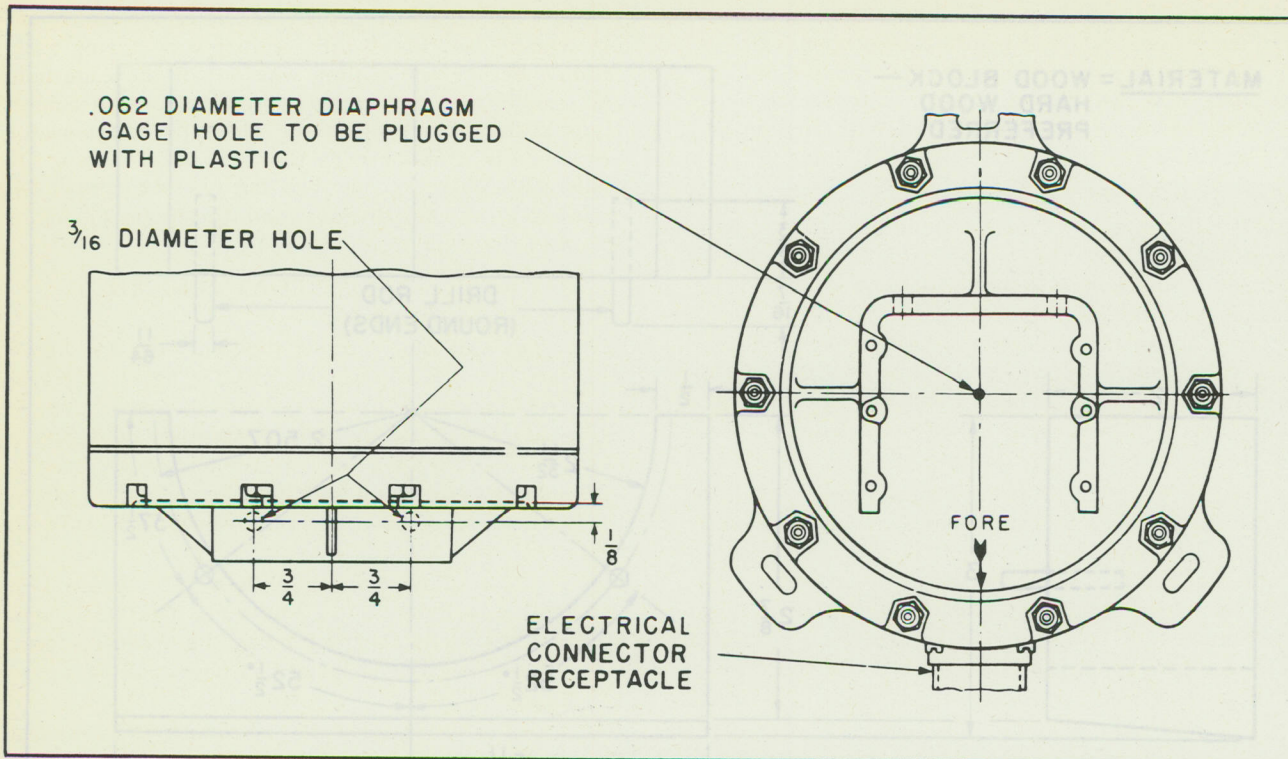

Figure 14—Location of Drainage Holes
d. Mark out the centers for the two holes. (See figure 14.) Carefully drill the two 3/16-inch holes with the drill in a vertical position. If drilled according to instructions, the holes will be slightly slanted in relation to the top surface of the compensator housing (approximately 3 degrees). Be sure the drill does not penetrate through the housing more than 3/16 inch. To prevent chipping, a sharp drill is an absolute necessity. Thoroughly clean the surface of the compensator housing. Replace the compensator assembly and secure with the four screws (3, figure 15).